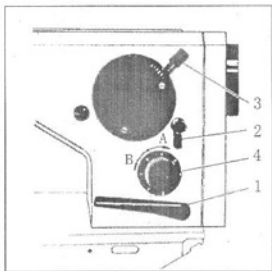
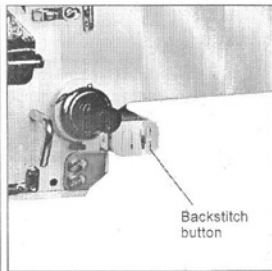

Fig. 9
Fig. 10
19. The stitch length and backstitch adjustment (Fig.9, Fig.10)
- 1) The stitch length can be adjusted by turning the knob (4) provided on the column of the machine arm, from 0 to 5mm. By turning it in the sense of the arrow "A", you increase the stitch length. By turning it in the sense of the arrow "B", you decrease it.
- 2) Depress the backstitch hand lever (1) can proceed backstitch.
- 3) Depress the backstitch button as shown in Fig. 10 can proceed backstitch.
20. The stitch width adjustment (Fig.9)